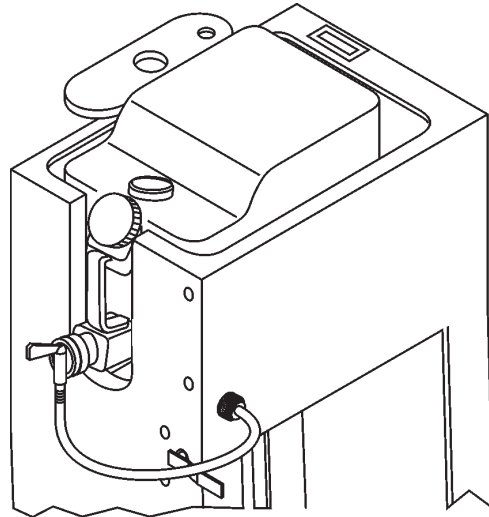

Figure 18. On-board Water Tank Hose Connection
The SP2 Saw is equipped with a removable 19-liter (5-gallon) on-board water tank fitted in the top of the console which can be connected to the brass hose fitting on the rear of the operators console (Figure 18).
4. Ensure the water tank is filled to capacity (19 liters/5 gallons). Connect the water tank hose to the water system brass fitting on the rear of the console (Figure 18) and test for adequate water flow to the diamond blade before operation. When ready to start cutting, turn the water on.